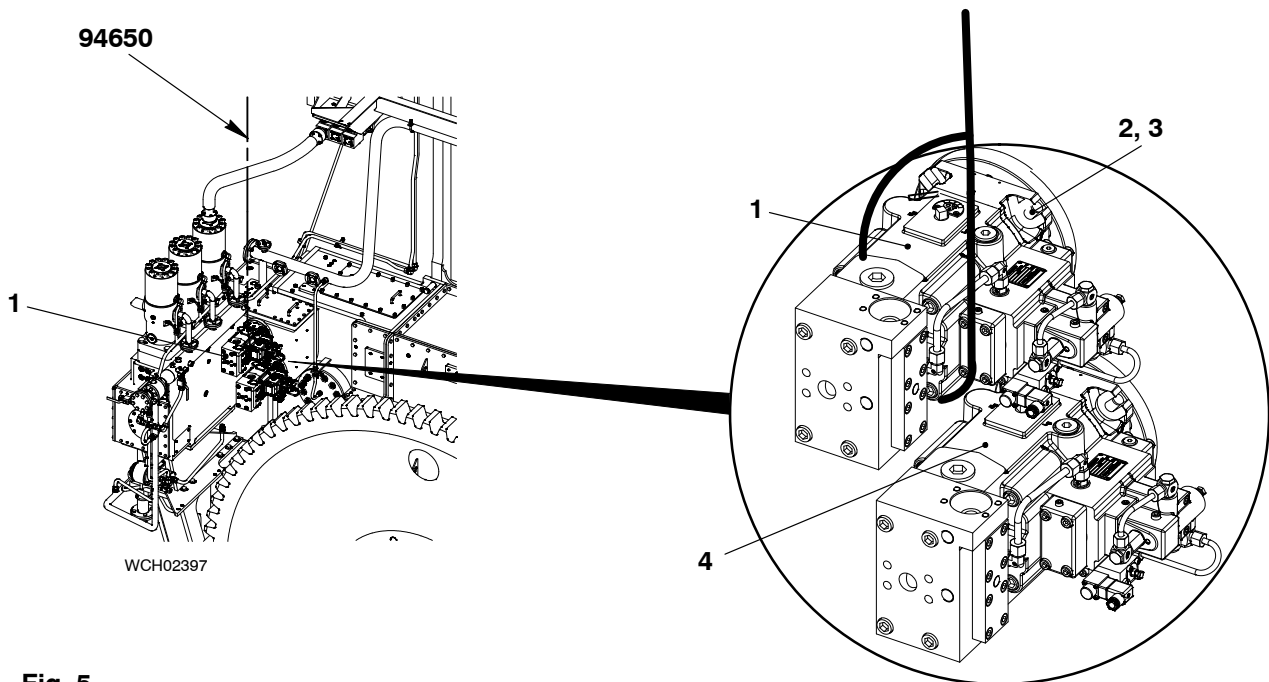

Fig. 5
- 1) Put the sling (94650, Fig. 5) around the servo oil pump (1) two times.